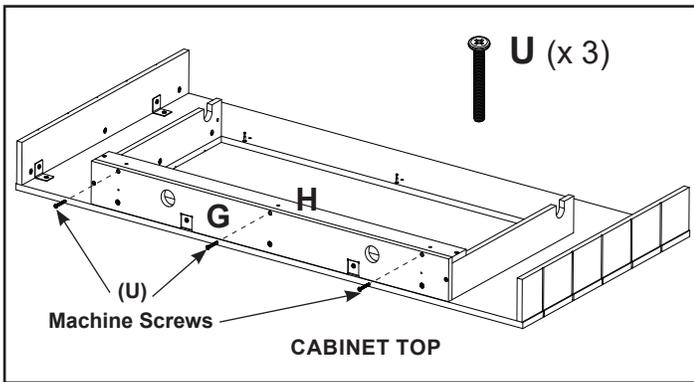

Figure 21
- Secure part "H" to part "G" using three (3) M6 x 45 Machine Screws (U). See Figure 21.